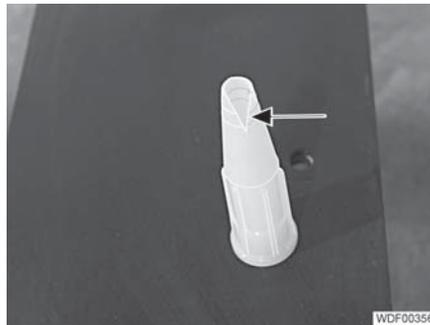

Fig. 376 Adhesive dispenser
- Cut off the end of the adhesive dispenser (Fig. 376) and make a notch (see the adhesive manufacturer's instructions).